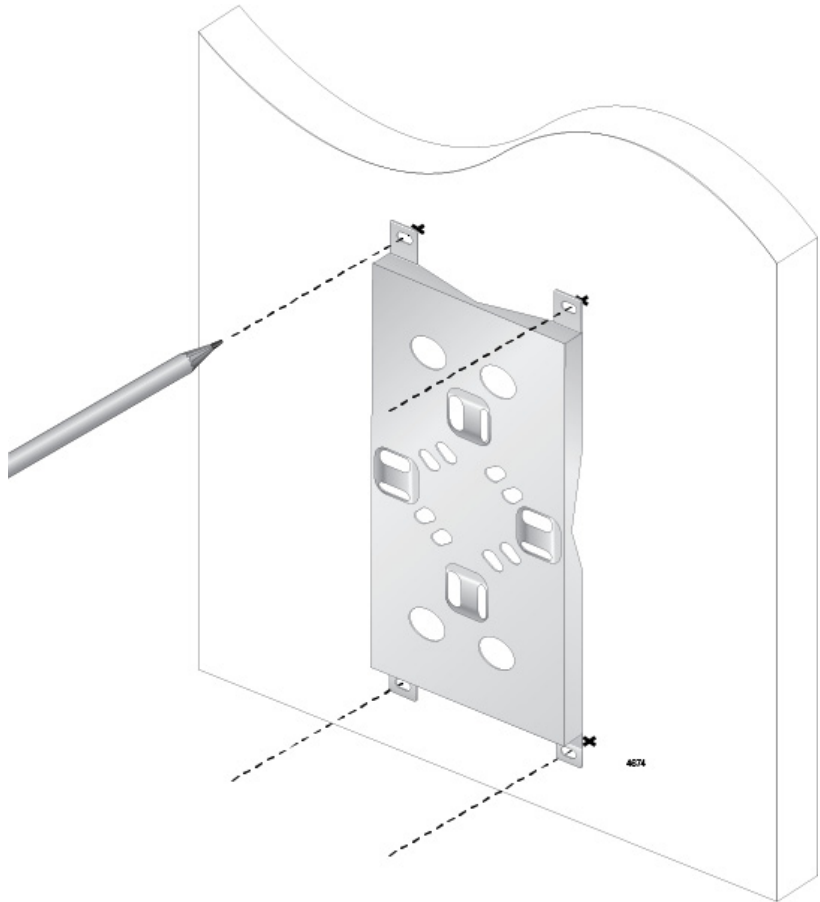

Figure 23. Marking the Mounting Base Holes on the Wall
2. Hold the mounting base on the wall at the desired location for the access point and mark the four mounting base holes with a pencil. See Figure 23.